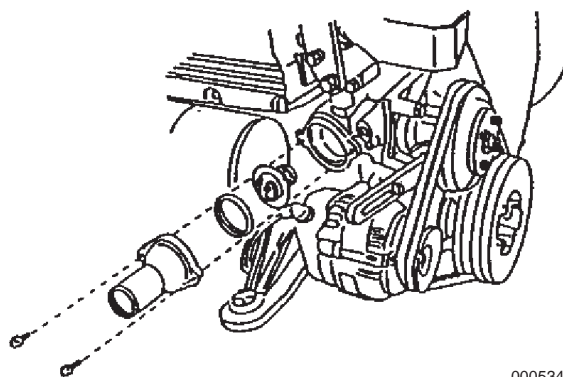

Figure 7-14
3. Install the thermostat cover **(Figure 7-14)**.